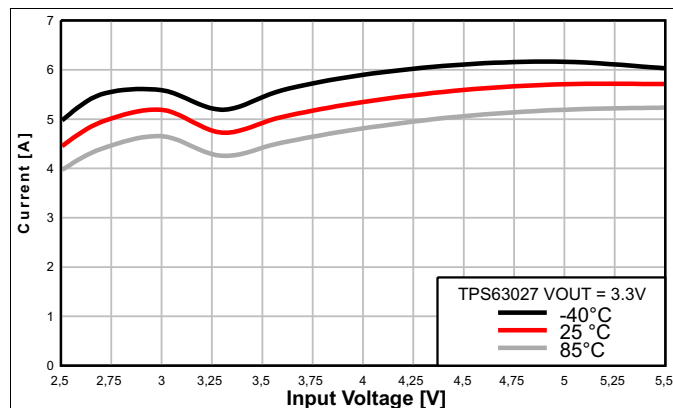

Figure 6. Average Input Current vs Input Voltage
Given the curves provided in Figure 6, it is possible to calculate the output current reached in boost mode, using Equation 1 and Equation 2 and in buck mode using Equation 3 and Equation 4.
- I_{IN} = Minimum average input current (Figure 6)
- (4)